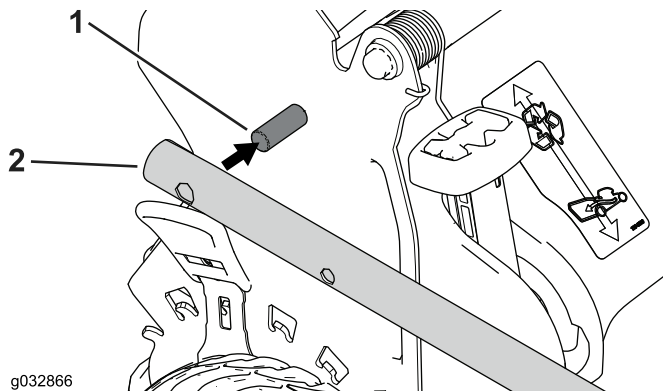

Figure 5
2. Install the handle ends onto the mower housing so that the pin attached to each handle bracket is in the lower hole of its related handle end (Figure 5).